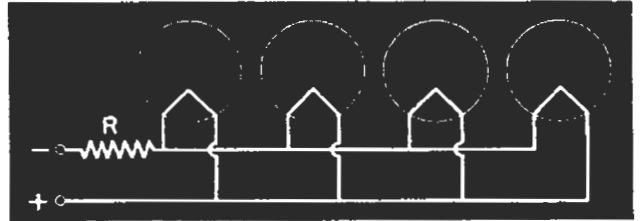

FIG. 23. Battery tube filaments are frequently connected in parallel.
► The filaments are generally connected in parallel to an A battery which furnishes about the correct voltage. If this voltage is too high, a series resistor is used to cut it down. Fig. 23 shows such a circuit; resistor  $R$  is used to drop the voltage to the correct amount. The difference in voltage between that required by the tubes and that furnished by the battery is the voltage which the